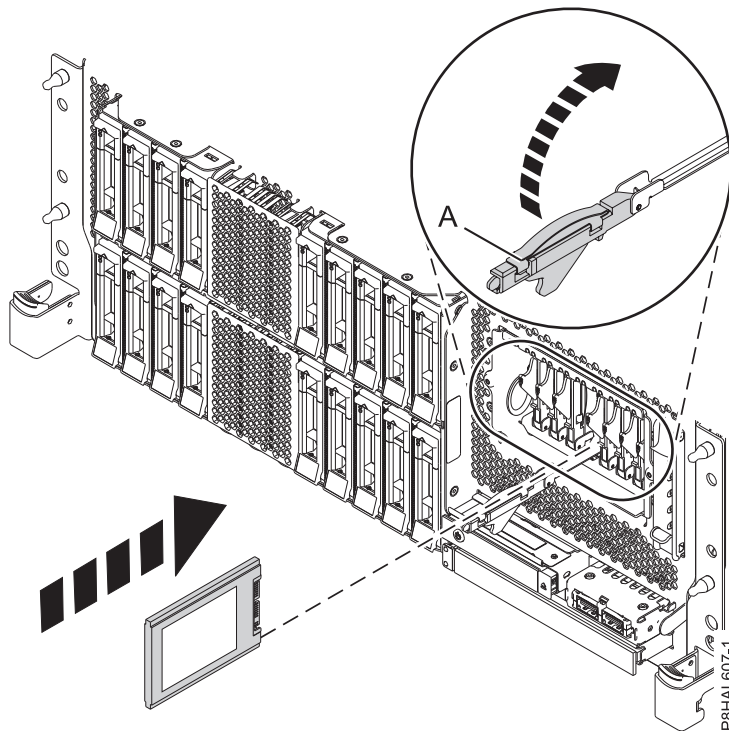
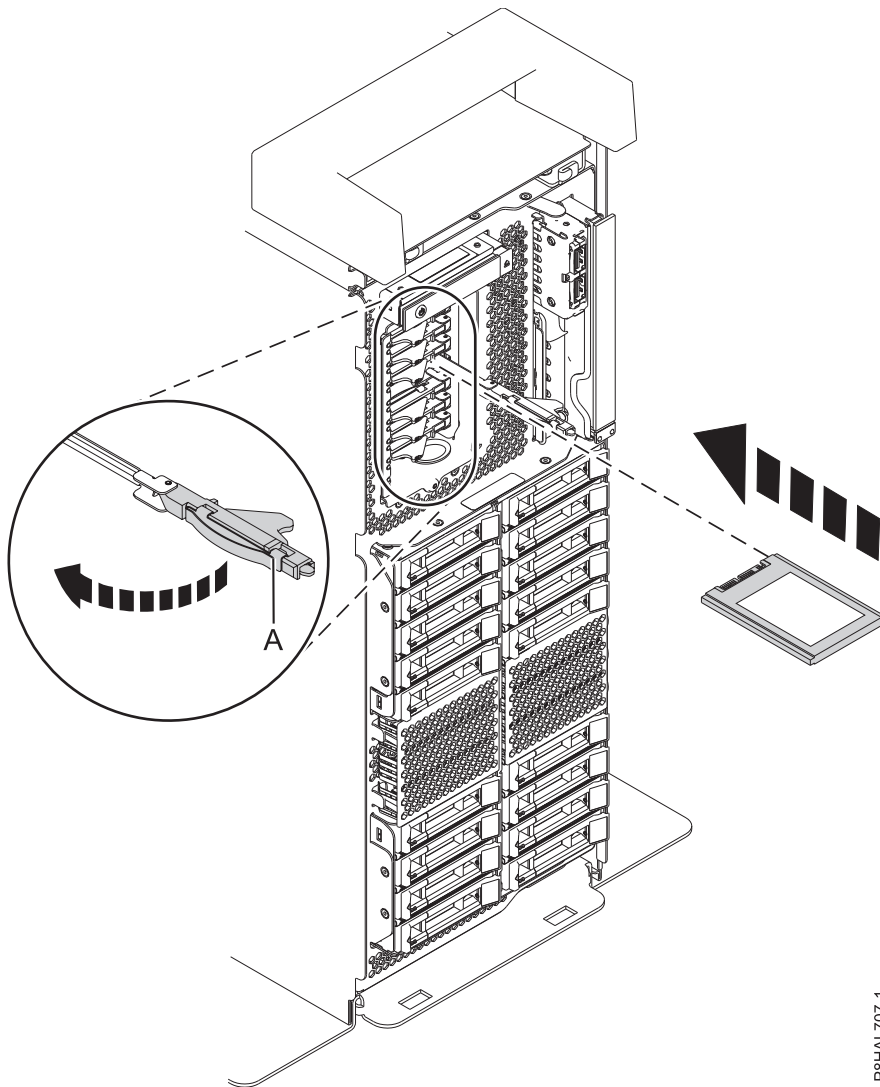

Figure 25. Installing an SSD in a rack-mounted expanded function system
Figure 26. Installing an SSD in a stand-alone expanded function system
14. With the SSD drive bay handle (A) in the unlocked position, pull the lever outward to gain access to the guide rails in the SSD slot. Support the bottom of the SSD as you align it with the guide rails in the SSD slot. See Figure 25 on page 31 and Figure 26 on page 32.
18. Lock the drive by rotating the bay handle (A) in the direction that is shown in Figure 25 and Figure 26 on page 32.